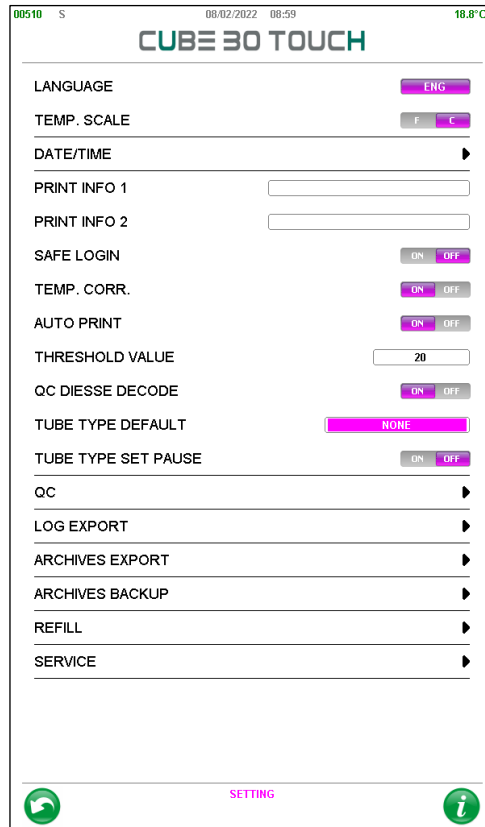
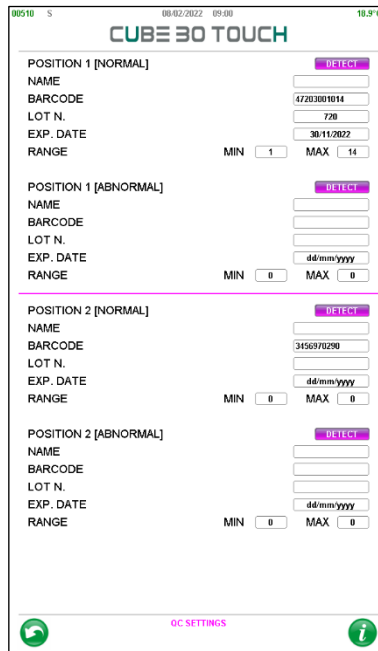

Figure 56 - Setting
Figure 60 - QC Setting
2. Select the item QC from the Settings menu (Figure 56 then Figure 60)